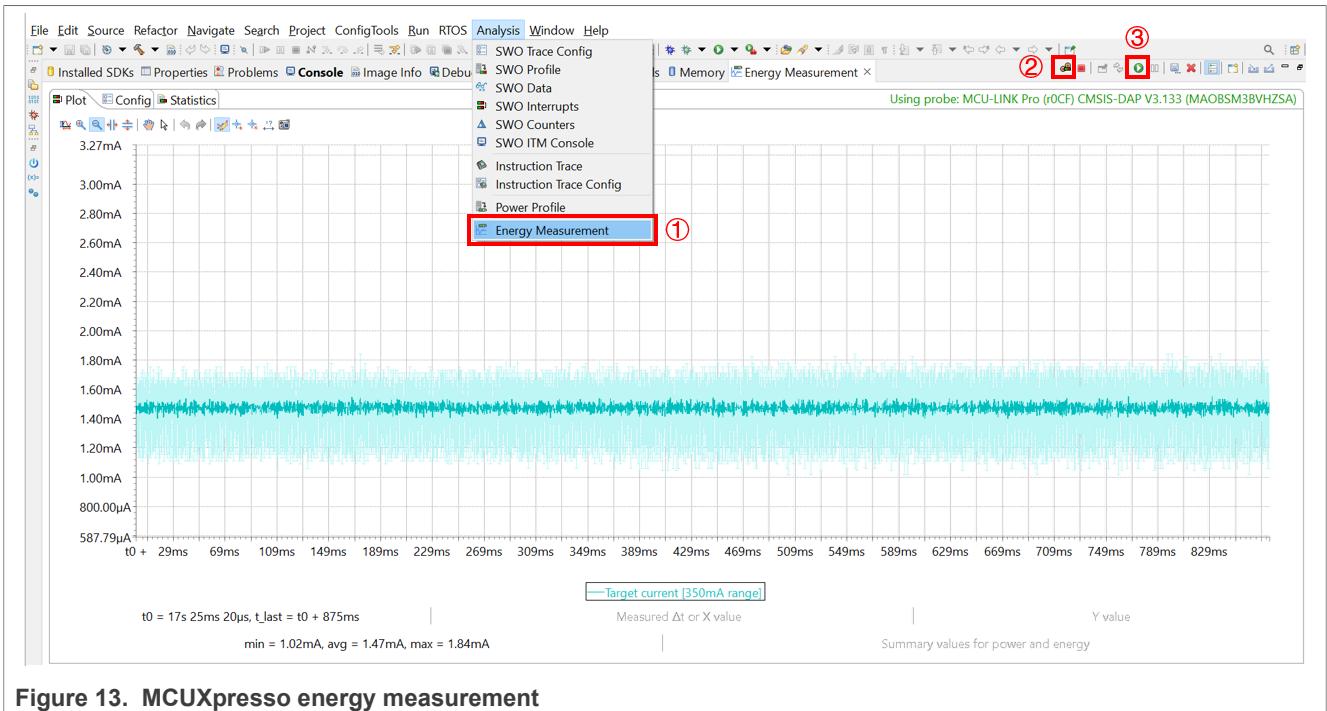

Figure 13. MCUXpresso energy measurement
2. Follow the steps shown in Figure 13 to measure current with MCUXpresso.